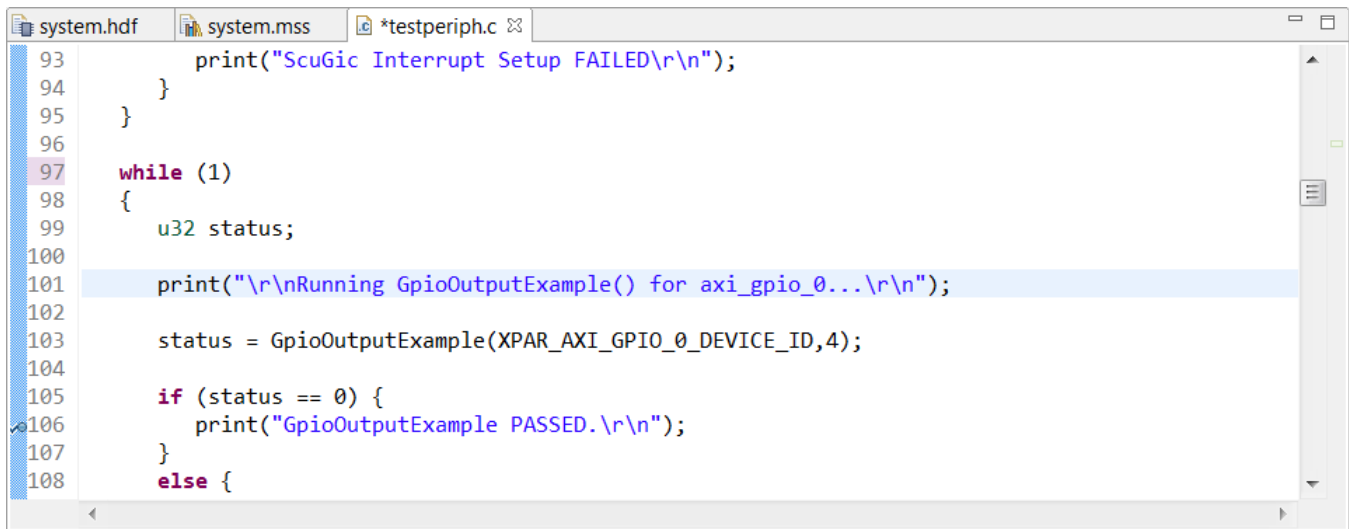

Figure 73: Set a Breakpoint
28. Add a breakpoint in the code so that the processor stops code execution when the breakpoint is encountered. To do so, scroll down to line 106 and double-click on the left pane, which adds a breakpoint on that line of code, as it appears in Figure 73. Click **Ctrl + S** to save the file. Alternatively, you can select **File > Save**.